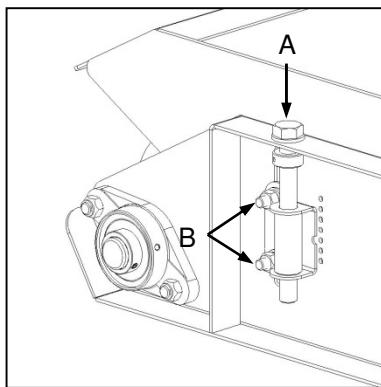

Fig. 6
- ✓** To set the working height of the implement, loosen the adjuster locknuts (Fig. 6-B/7-B) and adjust the lead screw provided (Fig. 6-A/7-A). Ensure the implement is level by establishing similar settings at all adjustment points.
- ✓** Om die implement se werkshoogte te stel, maak die sluitmoere los (Fig. 6-B/7-B) en verstel die leiskroef wat voorsien is (Fig. 6-A/7-A). Kry die implement waterpas deur middel van dieselfde instelling by al die verstelpunte.